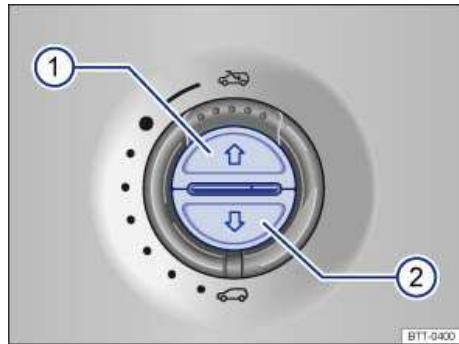

Fig. 323 In the headliner: Buttons for sunshade.
- Press and hold the button ⇒ fig. 323 \(2\) for about 5 seconds until the sunshade is completely closed.